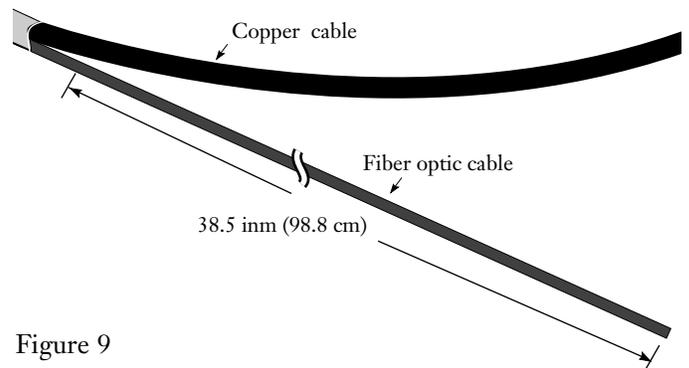

Figure 9
5.15 Mark the inner fiber optic cable 38.5 inches (97.8 cm) from the cable end (Figure 9).